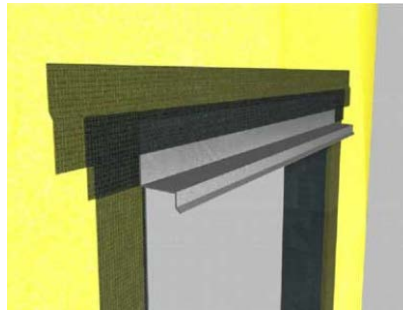

Figure 8
- e. Cut AquaFlash Mesh to proper length [flashing plus 4 in (102 mm) extending 2 in (51 mm) beyond each end of flashing] - Figure 8.